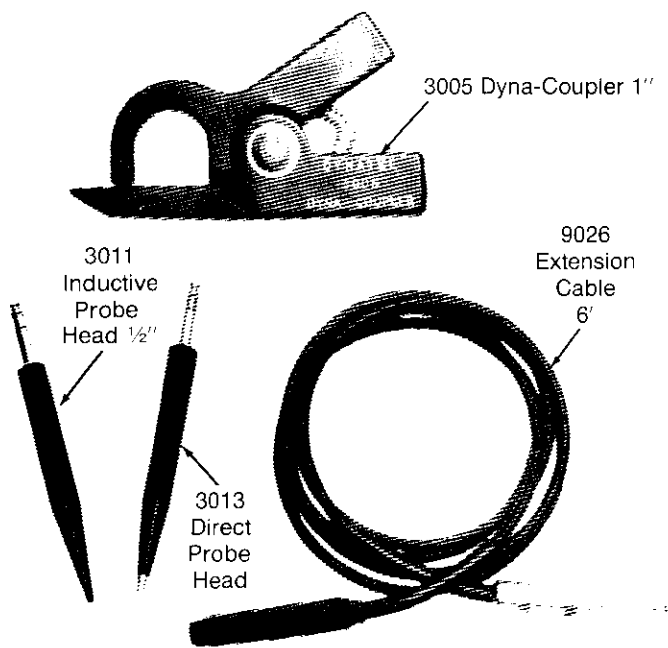

Fig. 19 — Accessories for the 500A Locator Available Separately from Dynatel/3M
7.05 AVAILABLE CONNECTION CABLES and ACCESSORIES (Fig. 19)